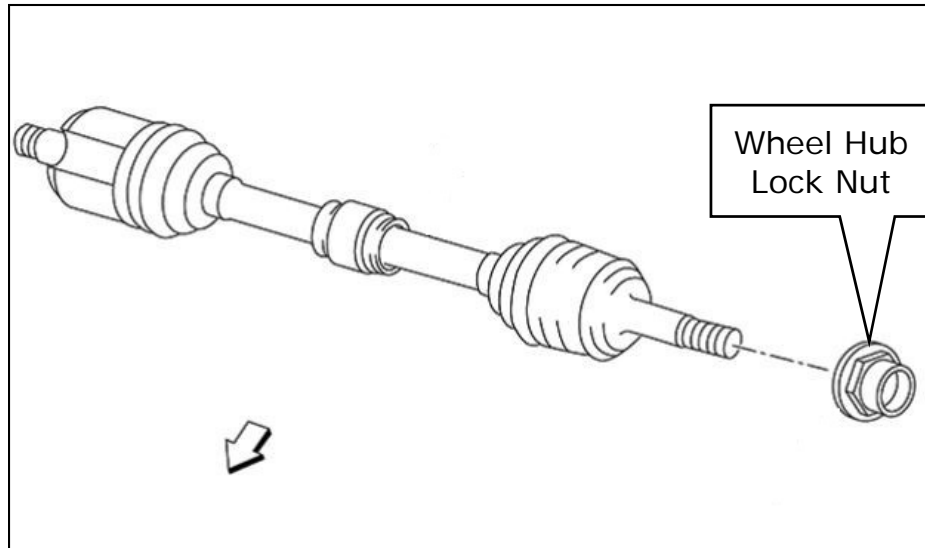

Figure 12
12. Replace the Front LH Drive Shaft (Figure 12).
- Refer to the ESM: **TRANSMISSION & DRIVELINE > FRONT AXLE > REMOVAL AND INSTALLATION > FRONT DRIVE SHAFT > Removal and Installation (LH)**